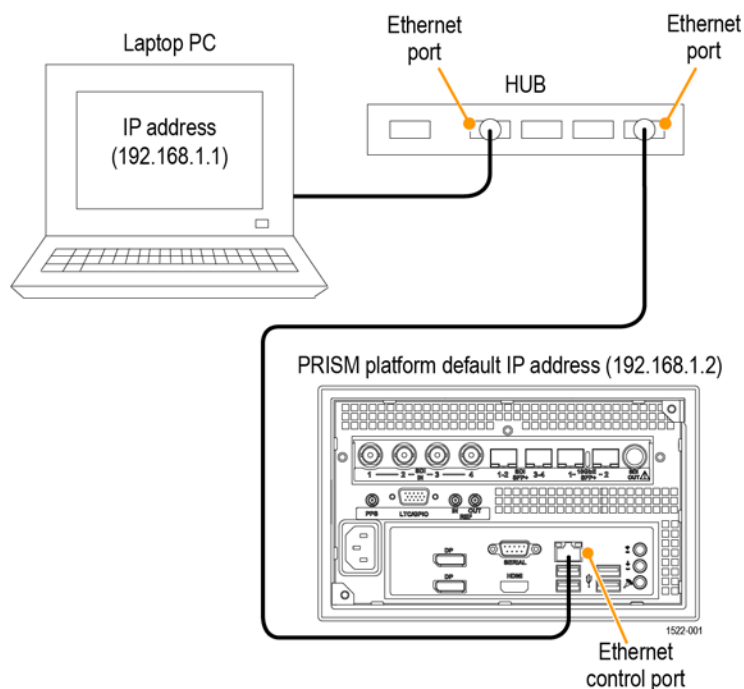

Figure 5: Connecting the instrument to a PC (MPI2-10 monitor shown)
1. Connect the instrument directly to a PC with an Ethernet cable. You can also use an Ethernet Switch. (See Figure 5.)